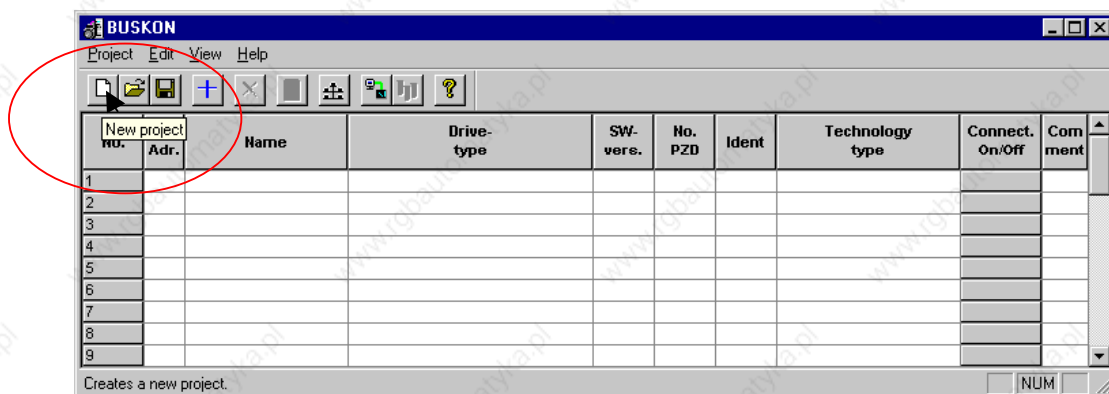

Fig. 5-8 Creating a project
- ◆ If the toolbar is being displayed, you can create a project by clicking on the button *New project* (see Fig. 5-8) or selecting the menu command *Project → New*.